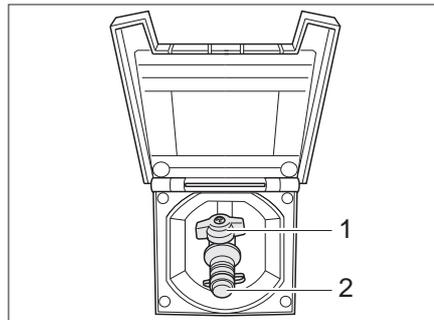

Fig. 89 External gas connection, gas isolator tap closed
The external gas connection (Fig. 89) is located at the rear or to the left or right of the vehicle depending on the model.
- Connect the external gas device to the connection point (Fig. 89,2).
- Open the gas isolator tap (Fig. 89,1).